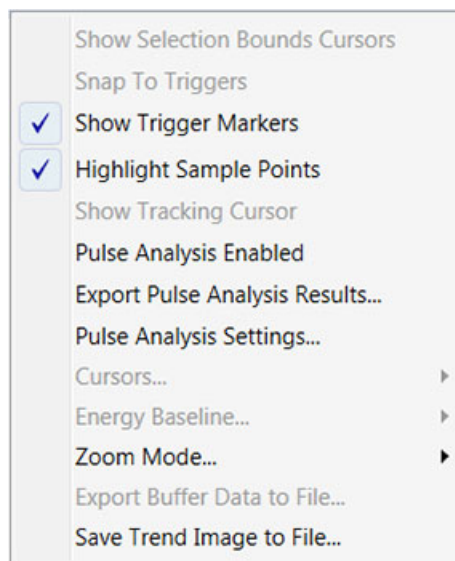

Figure 8-23. LPEM – Select Trending Chart Menu Options
4. Right-click in the Trending window to display the context menu. Click to select the menu options shown in Figure 8-23: